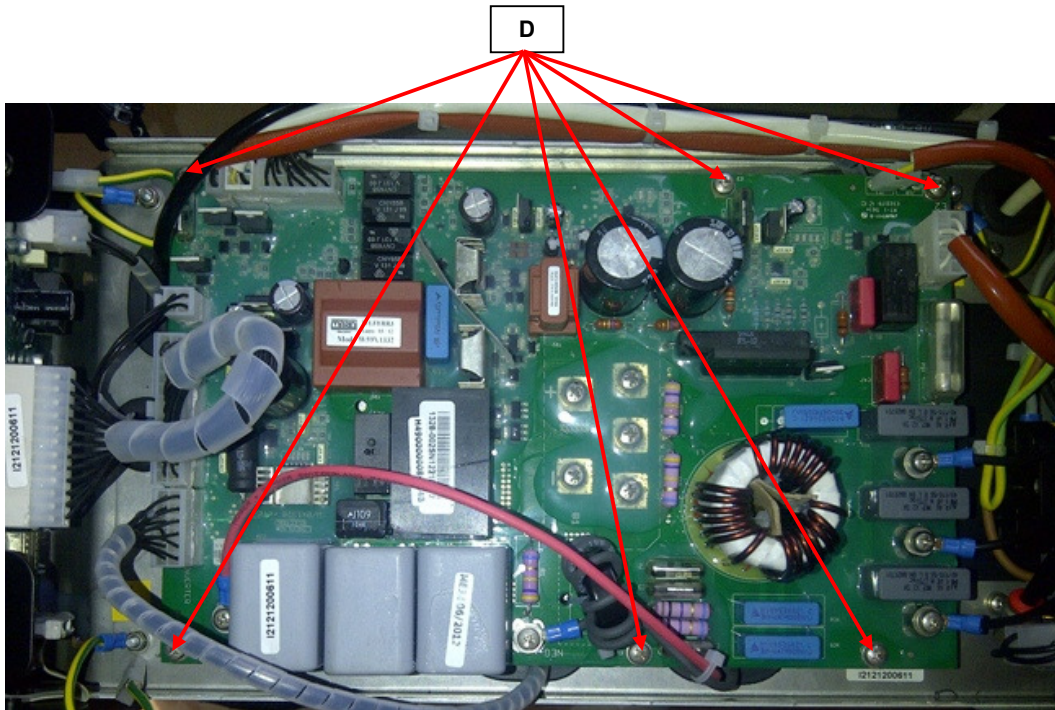

Fig.3
6. Using a Phillips screwdriver remove the 6 screws (D) that fix the input board to the machine central frame. See **Fig.3**.